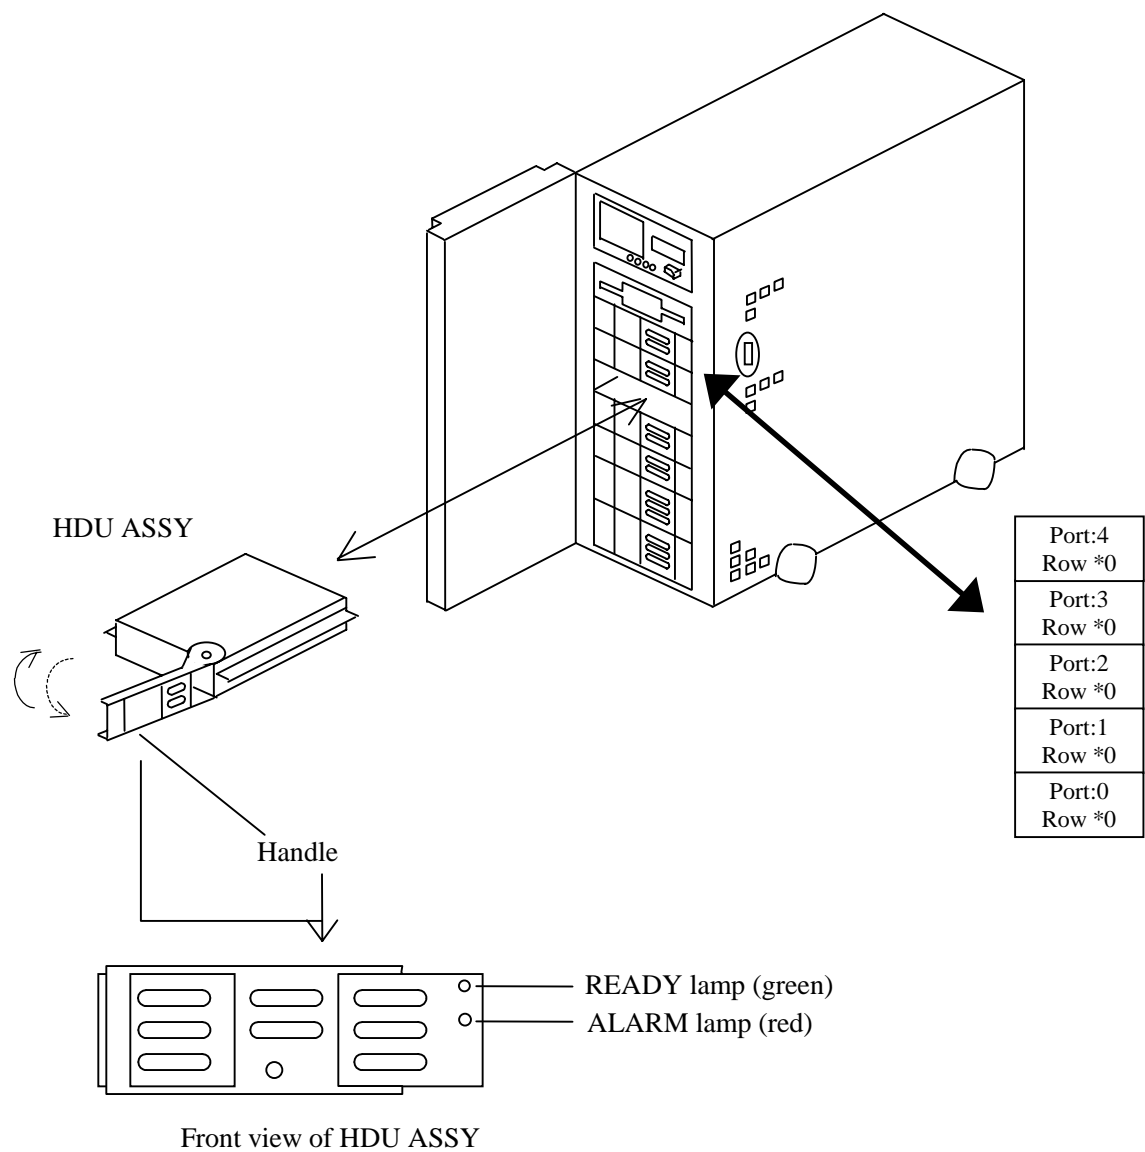

Figure 4. Replacement of HDU ASSY
4.2 HDU ASSY Replacement Procedure (See Figure 4.)